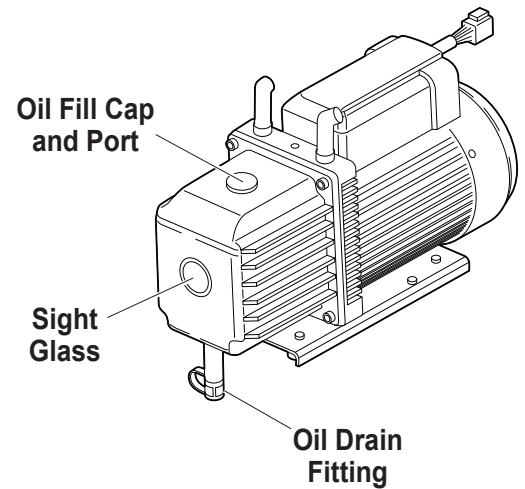

Figure 12
4. Slowly open the oil fill cap to verify there is no pressure in the machine. Then carefully remove the cap. See Figure 12.